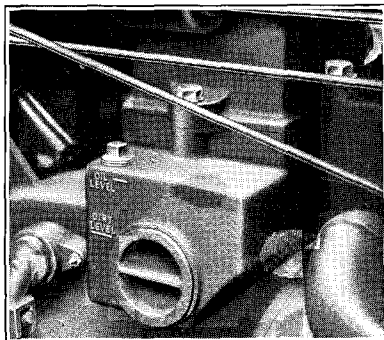

Figure 16
**Air Cleaner, Square Type.**—Drain, clean out sediment, refill with engine oil to the correct level. See page 34 and Fig. 16. Very dusty conditions may necessitate more frequent cleaning.